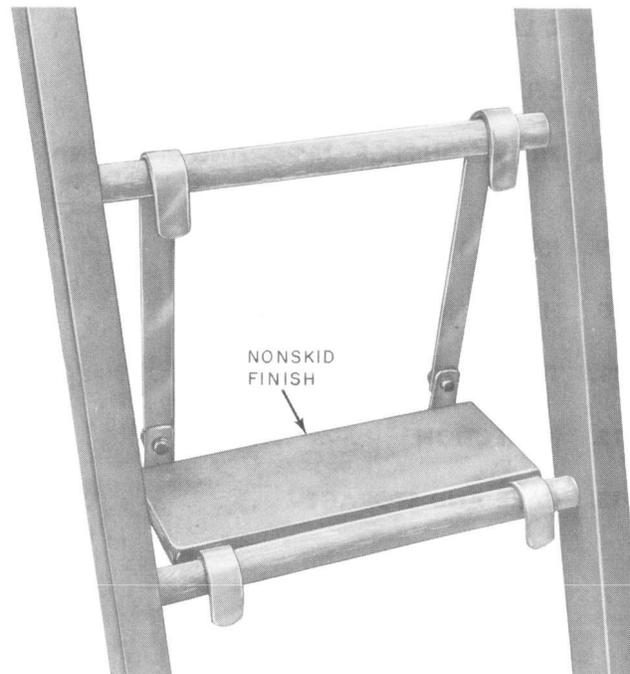

Fig. 3—B Ladder Tread in Working Position
5.01 The B ladder tread (Fig. 3) may be used to reduce fatigue while the craftsman is working at constant heights for a considerable length of time. The ladder tread is hooked on two consecutive rungs of the ladder to provide a more comfortable footing.